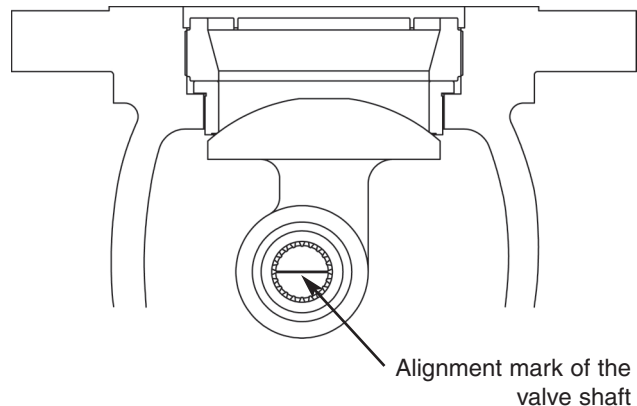

Figure 8: Shaft Alignment
- Pass the actuator yoke through the shaft tip, position the gland flange properly and align the yoke holes with the yoke studs assembled on valve bonnet. To assure a complete rotation of the plug, the mark existing in the shaft end must be aligned as illustrated in Figure 8.